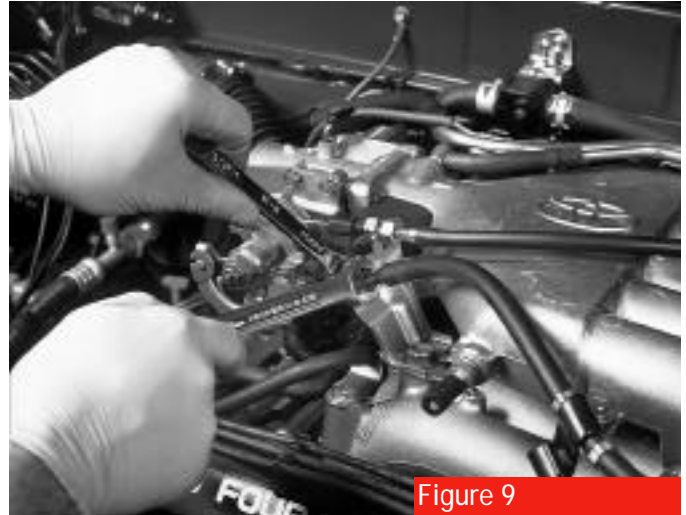

Figure 9
12. Loosen but **don't remove** the cable nuts (**figure 9**).